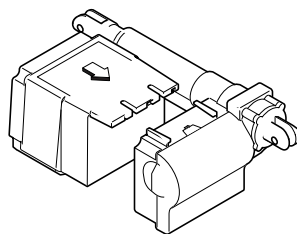

Fig. 2 – Mounting the control unit
- ▶ Slide the control unit onto the actuator as shown in Fig. 2. The control unit locks into position with an audible click of the locking mechanism.